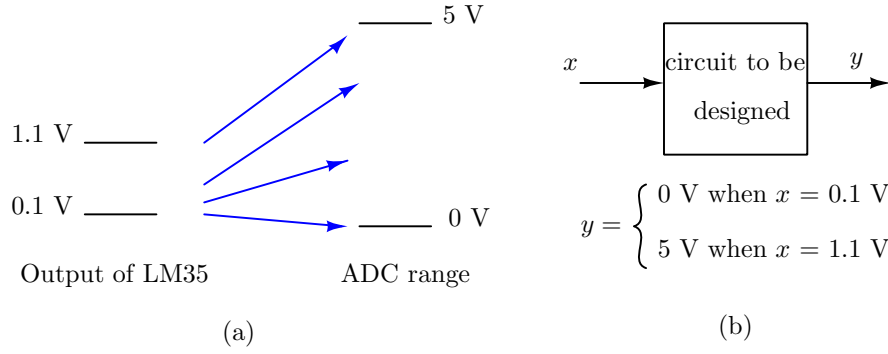

Figure 1: (a) Voltage mapping, and (b) the circuit transfer function.
1. Fig. 1(a) shows the voltage mapping that needs to be realized with a circuit. Fig. 1(b) shows the circuit to be designed. Let the input to the circuit be  $x$  and the output be  $y$ .